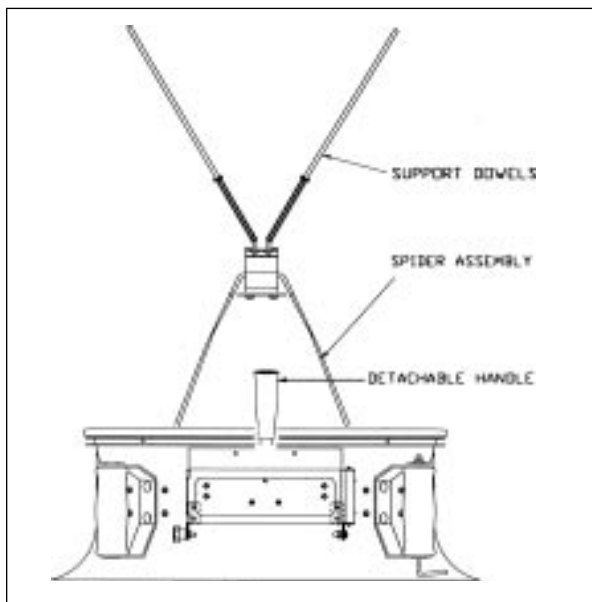

Figure 6—Instrument assembly
3. Unfold the spider assembly mechanism. See Figure 6. This mechanism will now be inserted into the four hood support brackets located in each corner of the base. Grasp one of the wire formed legs in each hand. Insert each of the legs into the center hole of the hood support brackets. Grasp the remaining two legs and insert them into the center holes of the remaining hood support brackets. If it is later found that the hood is not held as tautly as required, the spider assembly can be moved upward to compensate.
4. Place the four support dowels on the spider assembly mechanism as shown in Figure 6. The aluminum tips on the dowels should be facing up.
6. If desired, install the detachable handle as shown in Figure 6.